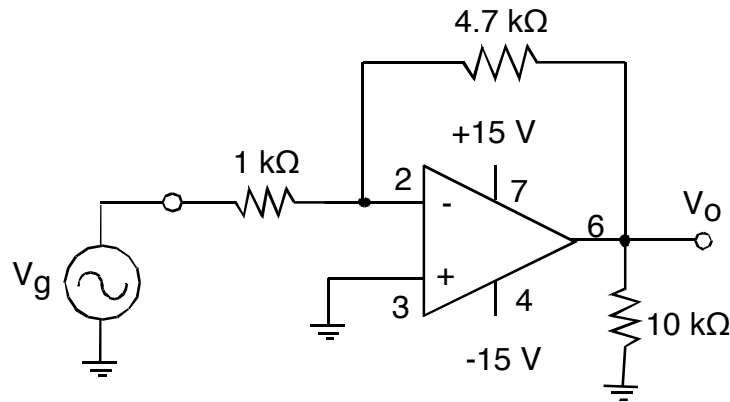

Fig 3: Inverting amplifier schematic
(1) Assemble the inverting amplifier circuit shown in figure 3. Remember to shut off the ± 15 V supply before assembling a new circuit. Cut and bend the resistor leads as needed to keep them flat against the board surface or form them over the IC package. Note that there are additional connections to ground in this circuit. Use short wires to connect input and output to the generator and oscilloscope alligator clip leads.
(2) Apply a 1 Volt amplitude, 1kHz sine wave at the input (V_g), and display both input and output on the oscilloscope. Measure the voltage gain of this circuit, and compare to the theory discussed in class. Make a plot of the input/output waveforms in your notebook.